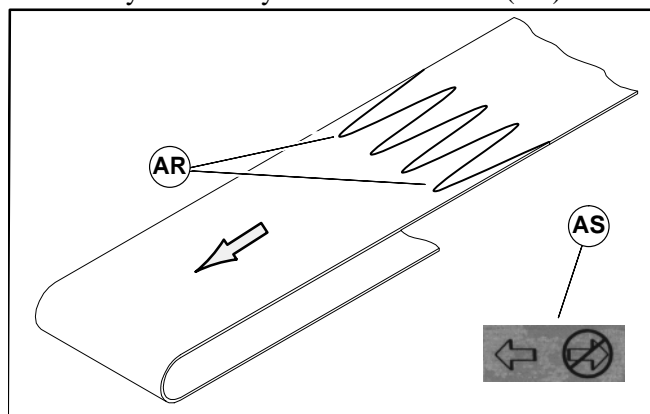

Figure 23
- Orient belt so splice leading fingers (AR of Figure 23) point in the direction of belt travel as identified by the conveyor directional label (AS).